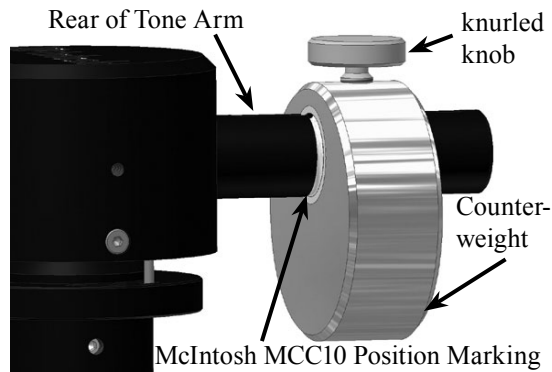

Figure 13
- Locate the Tone Arm Counterweight. Loosen up the knurled knob to permit installing the Counterweight onto the rear of the Tone Arm. Position the Counterweight on the Tone Arm so the front surface of the Counterweight lines up with the McIntosh MCC10 Cartridge position marking on the surface. Refer to figure 13. Then tighten the knurled knob to secure the position of the Counterweight.